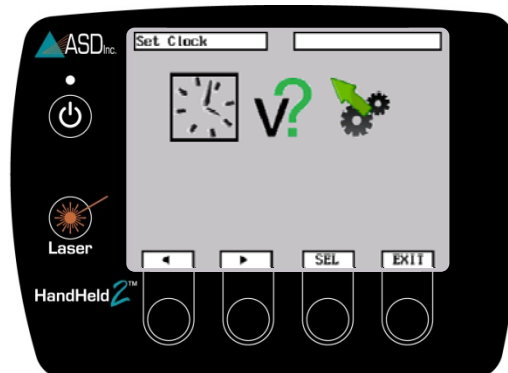

Figure 2-38: Set Clock
- Step 2 Navigate to the Set Clock icon and press the *SEL* button (Figure 2-38).